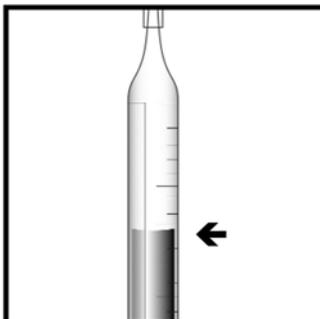

Figure 6
9. When the color of the liquid in the ampoule changes to **COLORLESS**, remove the ampoule from the Titrator. Hold the ampoule in a vertical position and read the scale opposite the liquid level (Figure 6).